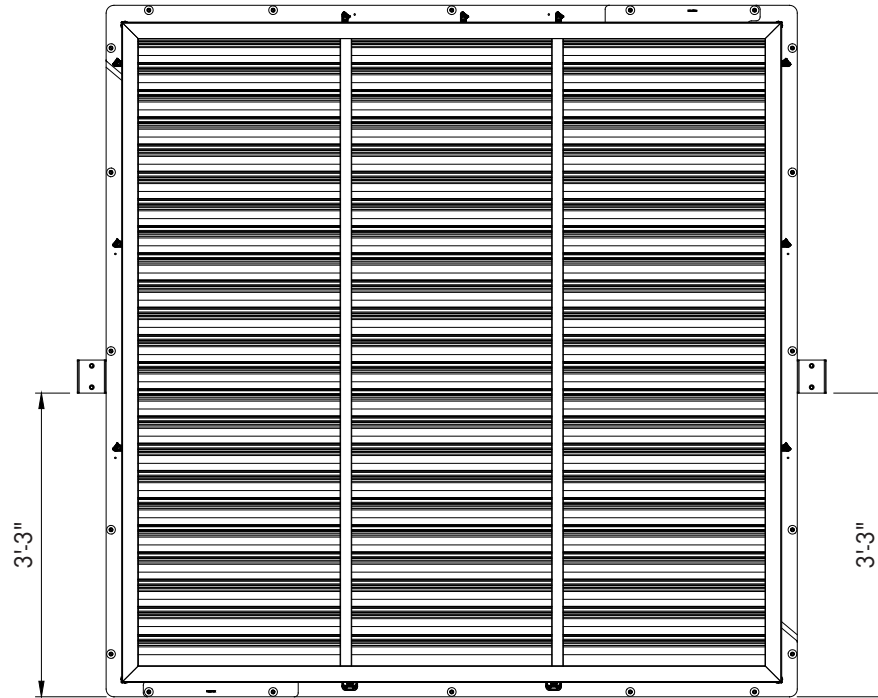
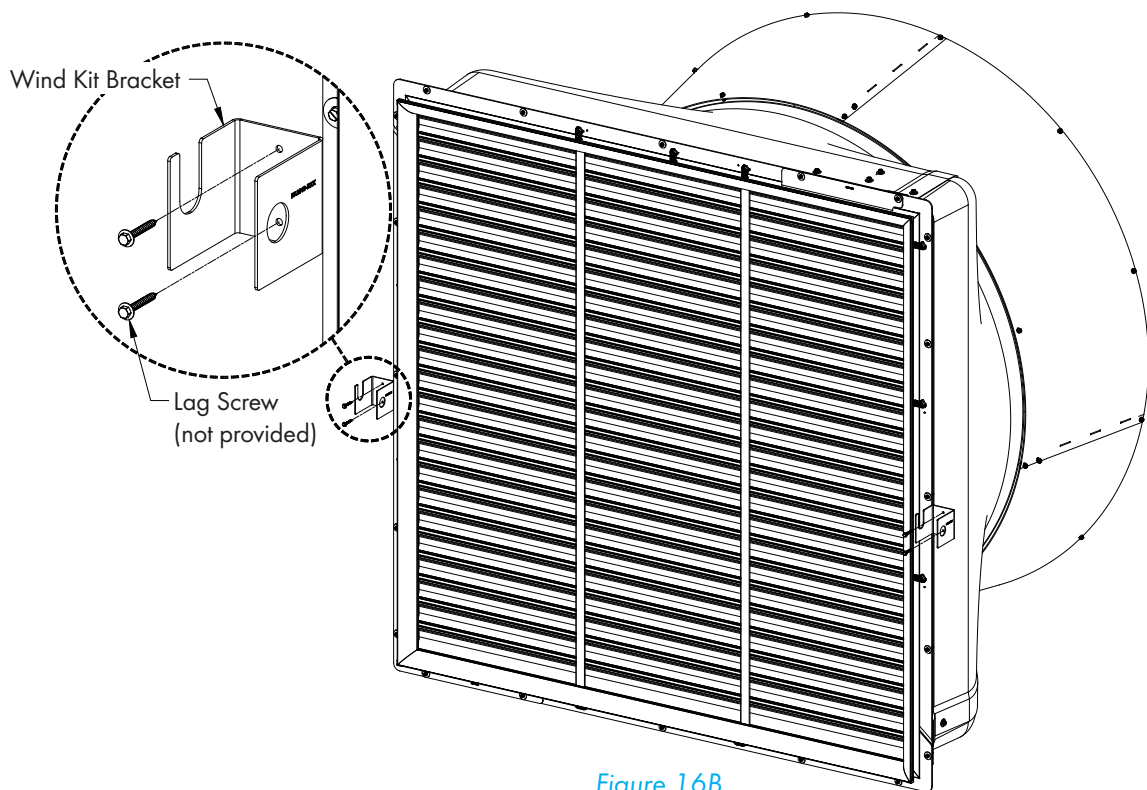

Figure 16A
Figure 16B
Mount one Wind Kit Bracket on each side of fan, 3'-3" above the bottom flange of fan. The opening in the 'U' slot should be facing up and each Bracket should be mounted in same direction. See Figure 16A. Fasten Brackets in place using (2) Lag Screws (not provided). See Figure 16B.